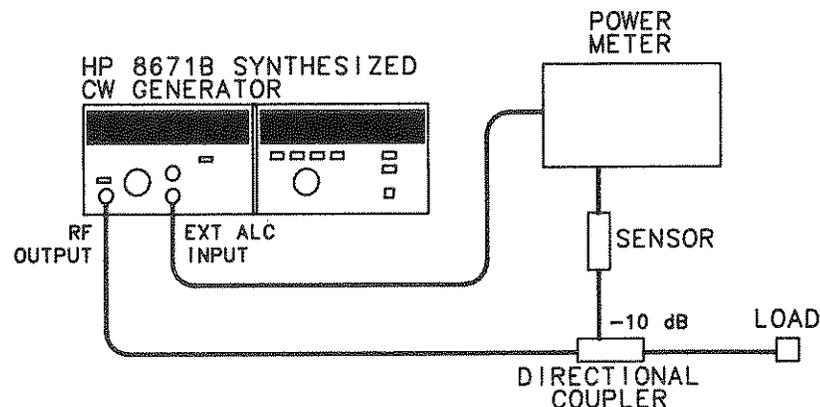

Figure 3-4. External Leveling with a Power Meter
2. Connect power meter to the point where leveling is to be used as shown in Figure 3-4. A directional coupler can be used to sample the power at the desired point. Set the output level to the desired power and select the range hold function on the power meter. This disables range changes and keeps the leveled power from oscillating.